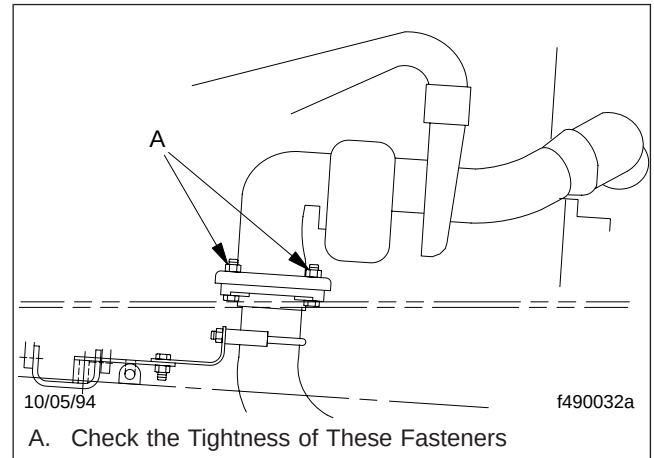

Fig. 1, Typical Exhaust-Pipe to Exhaust-Flange Fasteners, OM 366 Engine Shown
- 2.2 On Mercedes-Benz OM 366LA and Dodge Magnum engines, check the tightness of the fasteners that attach the exhaust pipe to the exhaust flange (**Fig. 1**). If needed, tighten the fasteners 33 lbf·ft (45 N·m) for Mercedes-Benz OM 366LA engines. For Dodge Magnum engines, tighten the fasteners 25 lbf·ft (34 N·m).